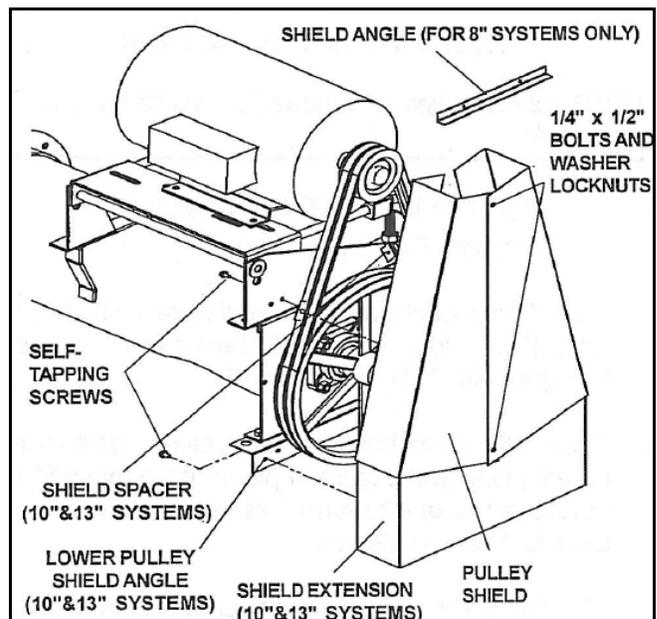

Figure 3.10
➔ 6. **For 10" and 13" systems**, assemble the adjustable three-piece pulley shield with four 1/4" x 1/2" bolts and washer locknuts (see Figure 3.10).
- ➡ 8. **For 10" and 13"** systems, attach the pulley shield to the lower pulley shield angle and the end plate with 4 self-tapping screws. The shield is mounted to the end plate using 2 shield spacers attached with self-tapping screws (Figure 3.10).